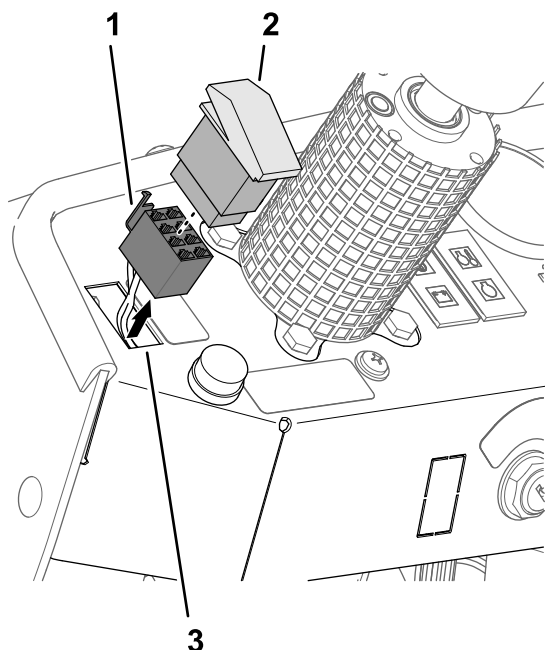

Figure 28
1. Remove the light switch from dash panel (Figure 28).
2. Remove the 8-socket connector labeled HEADLIGHT SWITCH from the headlight switch (Figure 28).